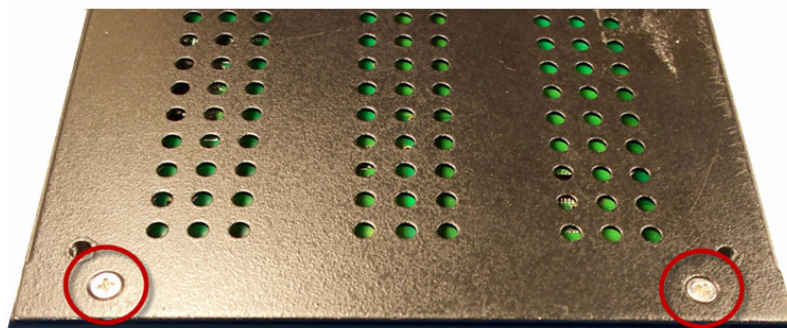

Figure 4-2: Screws on Bottom of Unit
3. Flip the unit on its back and note the two screws at the bottom (near the front) of the 2408 unit, as shown in Figure 4-2.
4. Remove these two screws (highlighted in Figure 4-2 with red circles).